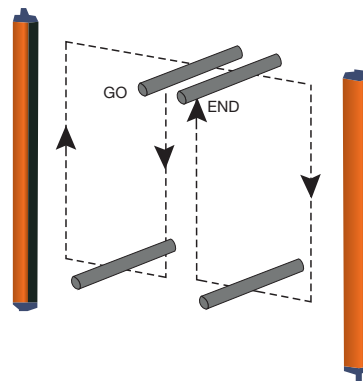

Fig. 12
- ESPE remains blocked () intercepting the beams along the protected area using the specific test piece, following the Fig.12 scheme.